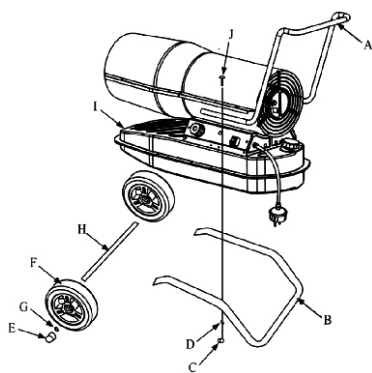

Fig 1
1. To assemble the heater, proceed as follows (see Fig.1):